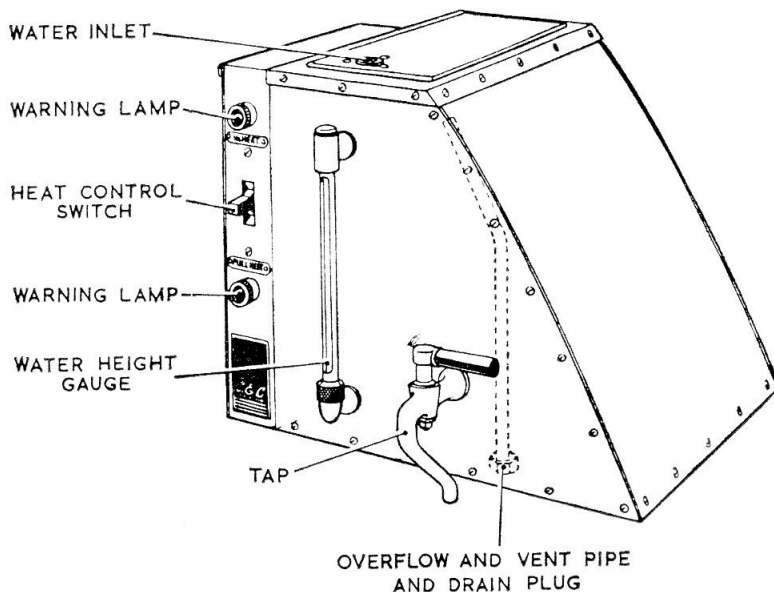

Fig. 1. Electric urn, 2 gallon
1. The G.E.C. Type HE37855/M26 urn is used in the galley of transport aircraft to provide boiling water for the making of beverages. The urn, which is shown in fig. 1, has provision for 2-heat selection, FULL-HEAT to bring the contents to boiling point and $\frac{1}{2}$ -HEAT to maintain them at boiling point. Two warning lamps situated one above and one below the switch indicate the selection made.